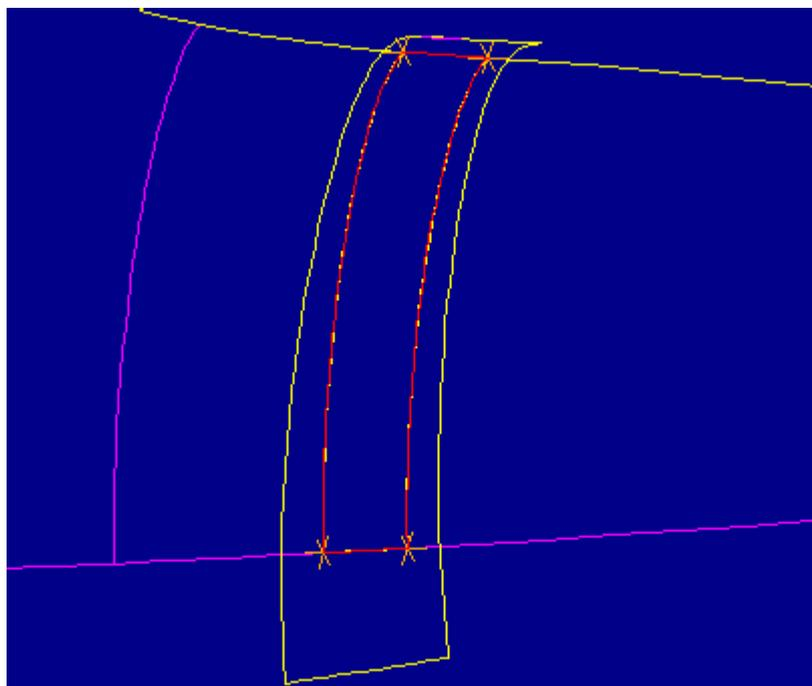
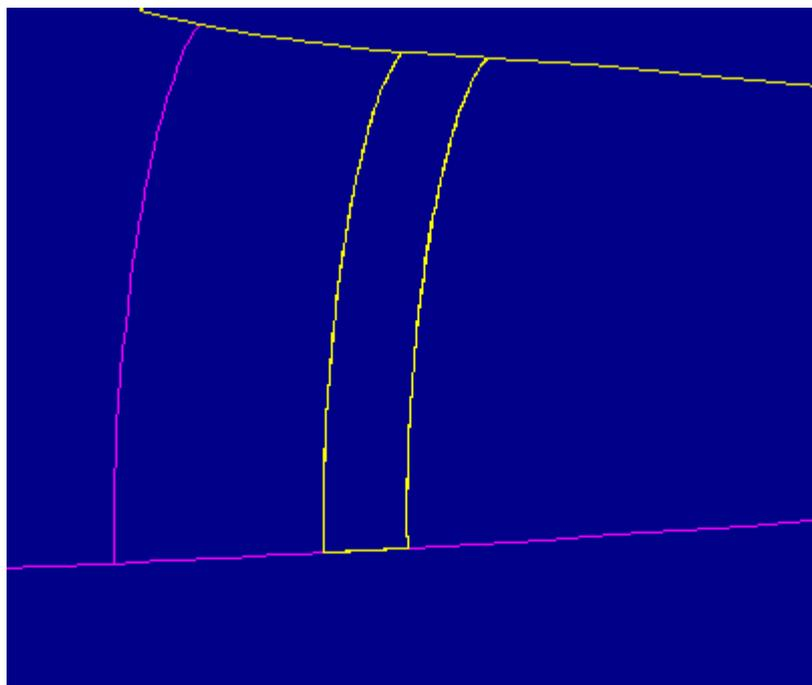

Figure 16
Figure 17
14. Figure 16 shows the replacement contour highlighted in red upon selecting **Preview**. This indicates that the current contour can be used to replace the original contour. Figure 17 shows the replacement of the original contour upon selecting **Done**. Notice how the surface has been trimmed so it fits properly into the quilt. Also note that the surface has not been joined into the quilt because we have not yet returned from the editing process and allowed the regeneration of the import feature.